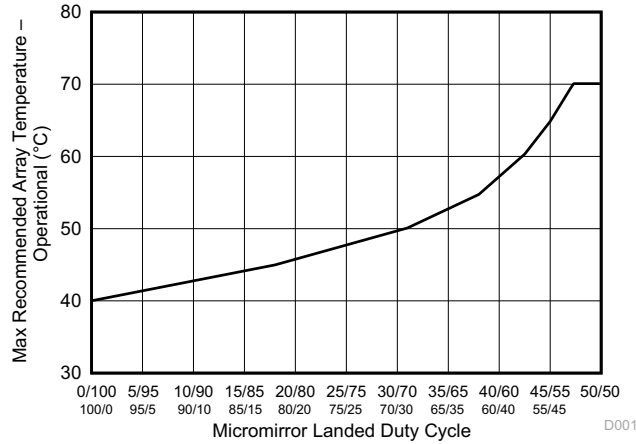

Figure 5-1. Maximum Recommended Array Temperature – Derating Curve
- (12) Per Figure 5-1, the maximum operational array temperature should be derated based on the micromirror landed duty cycle that the DMD experiences in the end application. Refer to Section 6.8 for a definition of micromirror landed duty cycle.
- (13) Long-term is defined as the usable life of the device.
- (14) Short-term is the total cumulative time over the useful life of the device.
- (15) The maximum marginal ray angle of the incoming illumination light at any point in the micromirror array, including at the pond of micromirrors (POM), should not exceed 55 degrees from the normal to the device array plane. The device window aperture has not necessarily been designed to allow incoming light at higher maximum angles to pass to the micromirrors, and the device performance has not been tested nor qualified at angles exceeding this. Illumination light exceeding this angle outside the micromirror array (including POM) will contribute to thermal limitations described in this document and may negatively affect lifetime.